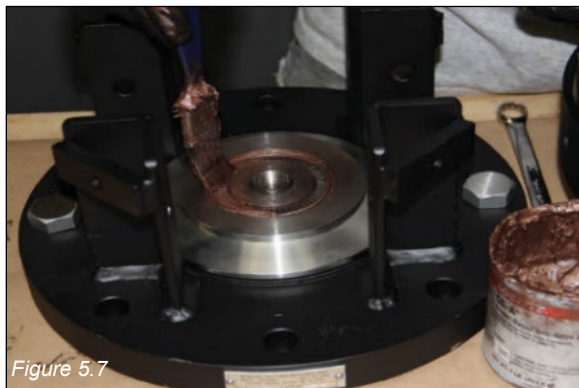

Figure 5.7
- c. Coat the needle bearing ring with anti-seize (*Figure 5.7*).